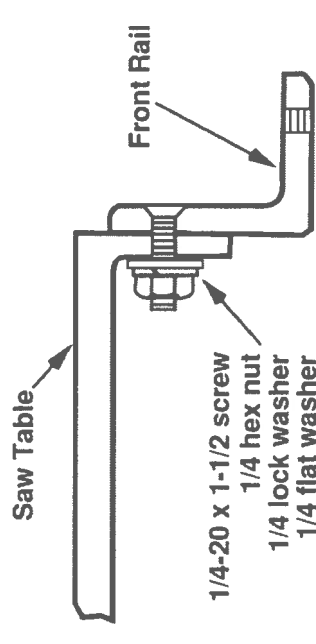

Figure 2
3. Lightly secure the *front rail* to the saw table with four 1/4-20 x 1-1/2 *flat head screws*, four 1/4 *flat washers*, four 1/4 *lock washers*, and four 1/4 *hex nuts* (Figure 2). Finger-tighten only.